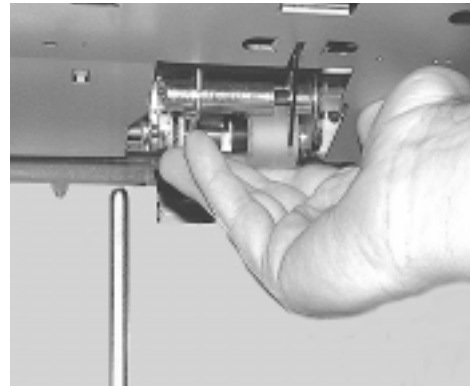

Figure D-6 HCI interior and Upper Roller Assembly location
Step 8 Move to the front of the HCI. Locate the upper roller assembly on the top underside of the HCI, as shown in Figure D-6. Hold this assembly up with your hand.